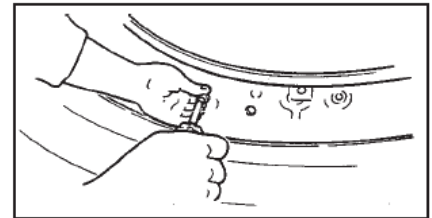

Figure 1
4. Remove the valve core; deflate tires completely. (See Fig. 1.)